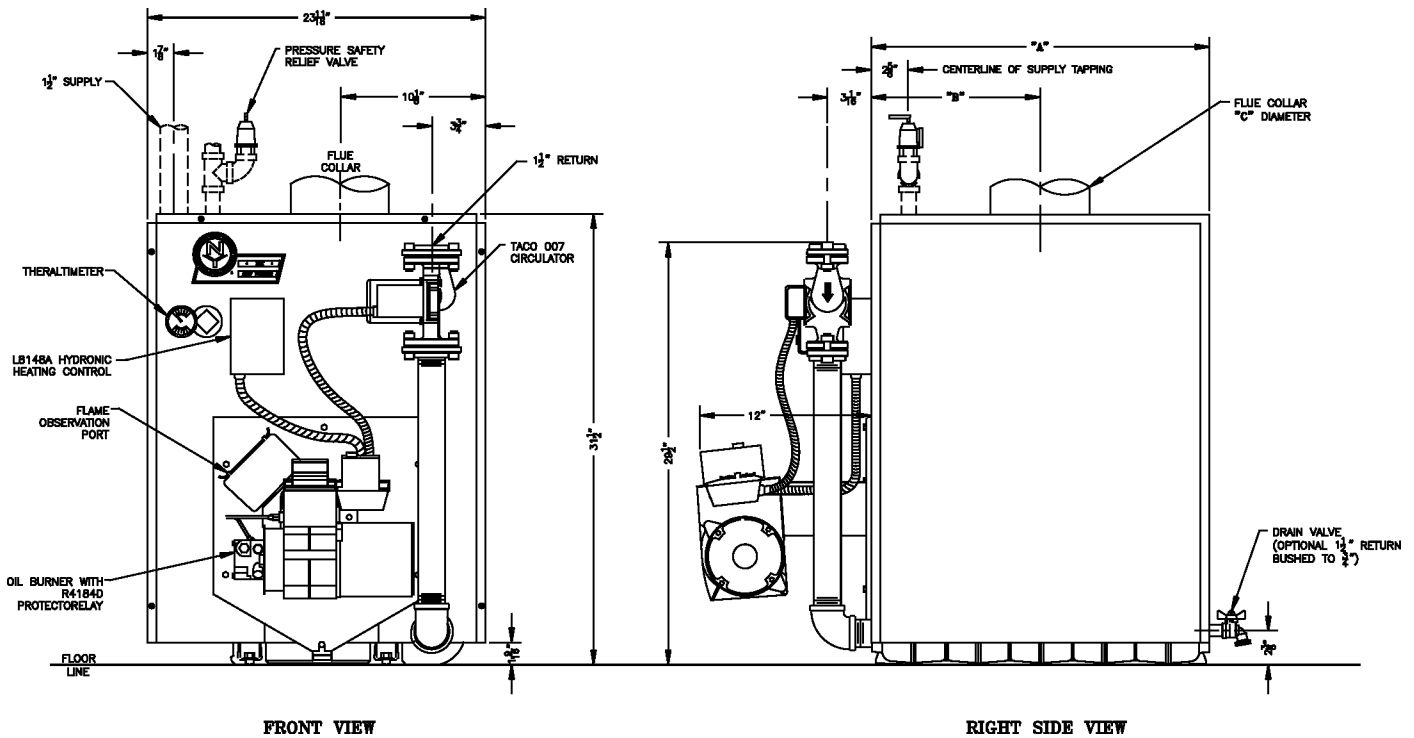

Figure 1A: CLW Series "P" Less Tankless Heater
2. ANY CLAIMS for damage or shortage in shipment must be filed immediately against the carrier by the consignee. No claims for variances from, or shortage in orders, will be allowed by the manufacturer unless presented within sixty (60) days after receipt of goods.
- B. LOCATE BOILER** in front of final position before removing crate. See Figures 1A and 1B.
TABLE 1: DIMENSIONAL DATA (See Figures 1A and 1B)
section, see Figures 1A or 1B.